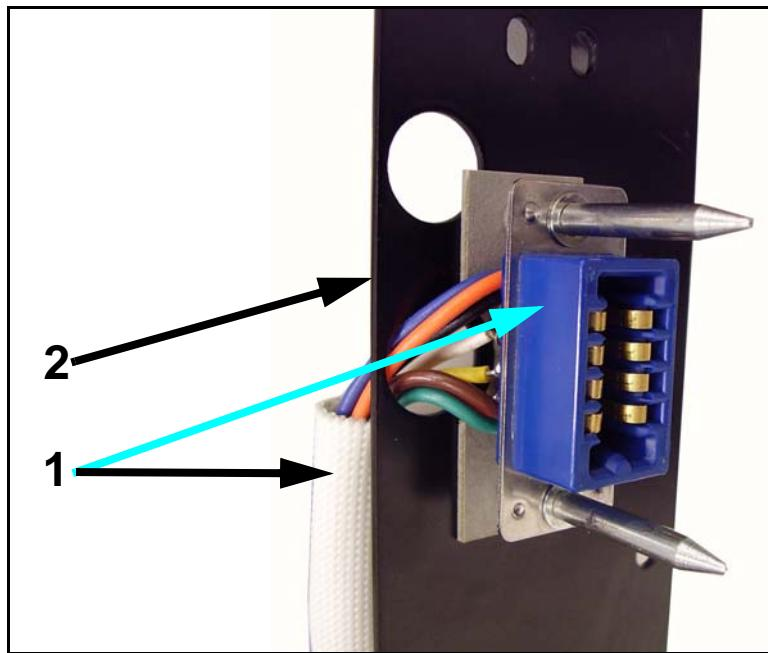

Figure 6-23. PBL Connector
- 11 Pull connector and harness (1 in Figure 6-23) out of bracket (2).